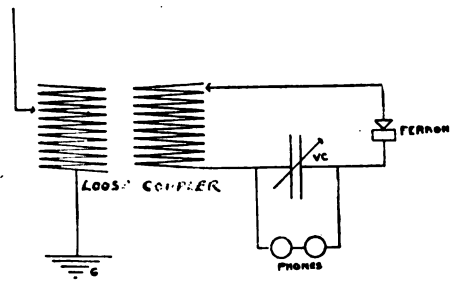

Fig. 1
Ans. (3) Proper connections for these instruments are indicated in Fig. 1.